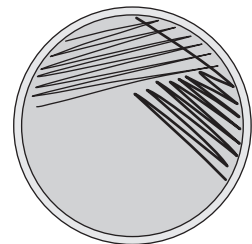

FIG. 2.7.
8. Cover a second one-fourth to one-third of the agar plate using the same technique as in steps 4 and 5 above (Fig. 2.7).